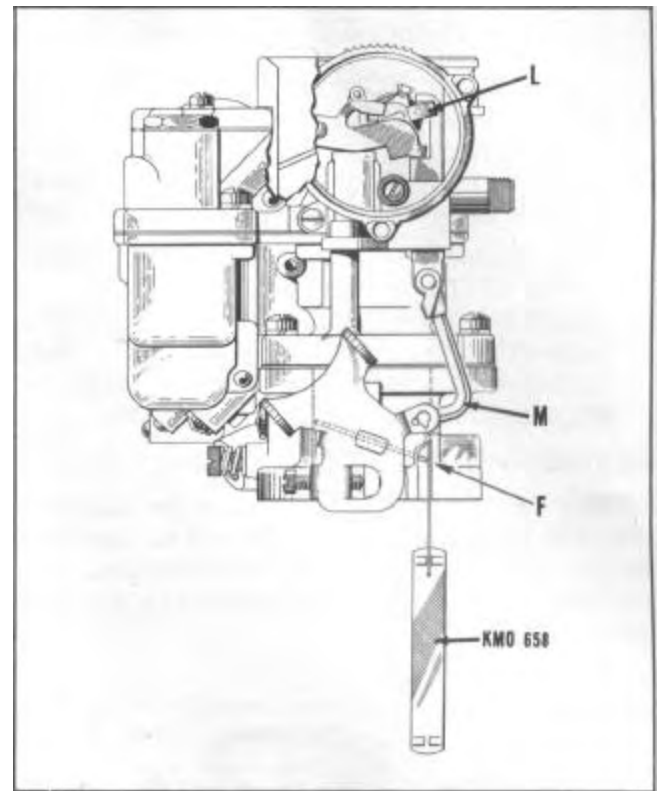

FIGURE 35
1. With the thermostatic coil housing, gasket and baffle plate removed, open throttle valve (F), Figure 35, and hold choke valve closed by holding arm down on choke lever (L).
2. Then close throttle. There should now be 1026" clearance (use gauge KMO-658-T-109 - 189) between the throttle valve and bore of carburetor (side opposite idle port). Adjust by bending the choke connector rod at lower angle (M).
2. Hold throttle lever closed and pull cam back until low s t e p is against but not on set screw (B), Figure 35.